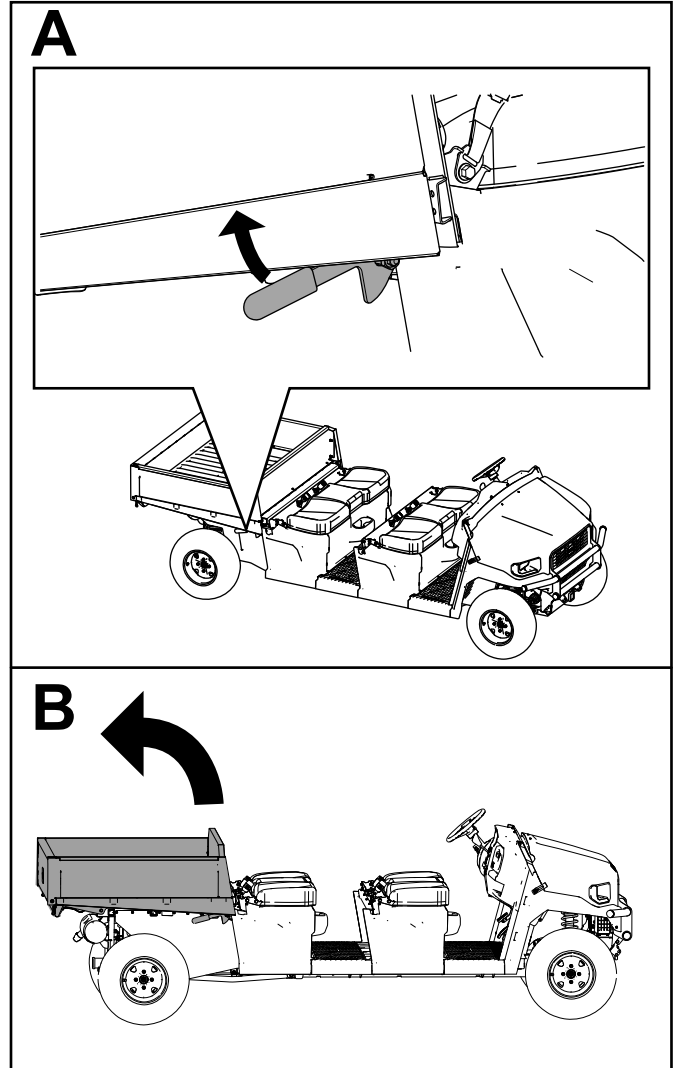

Figure 36
1. Raise the cargo bed (Figure 36).